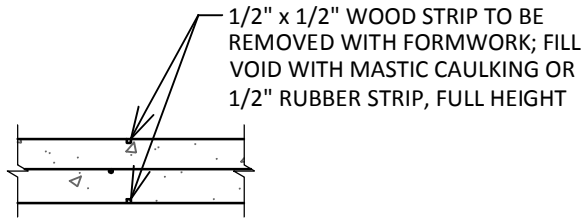
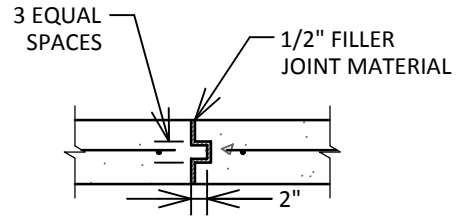

FIGURE 1: CONCRETE CONTROL JOINT DETAIL
FIGURE 2: CONCRETE EXPANSION JOINT DETAIL
7. Control joints (see Figure 1) shall be placed no more than 20-feet o.c. Expansion joints (see Figure 2) shall be placed at every fourth control joint.